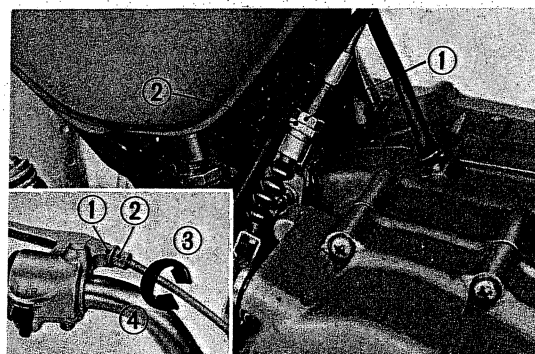

Fig. 10 ① Lock nut ② Adjuster ③ Increase ④ Decrease
- 2) Turn the adjuster in the cable counter clockwise to adjust the lever end play. (Fig. 10)